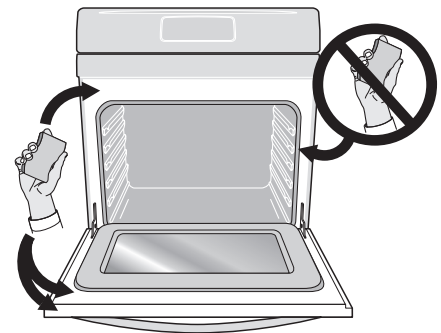

Figure 19: Clean around the oven door gasket
3. Pour 1 cup of tap water onto the oven bottom. (Figure 19) Close oven door.